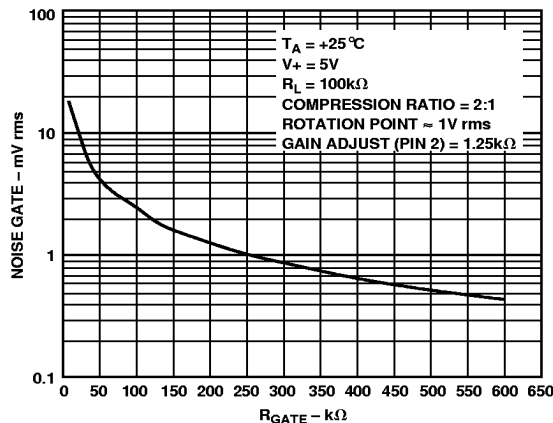
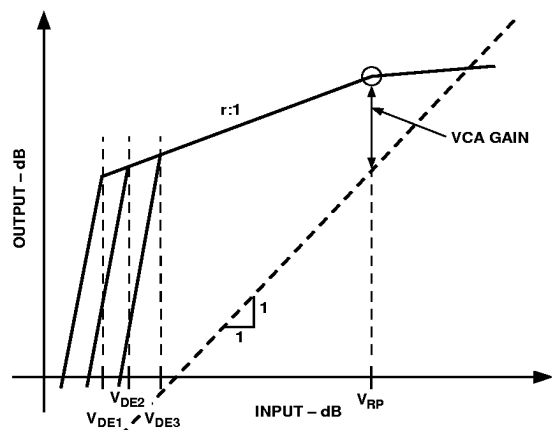

Figure 4. Noise Gate vs.  $R_{GATE}$  (Pin 9 to  $V_+$ )
Figure 20. Effect of Varying the Downward Expansion (Noise Gate) Threshold
**Downward Expansion Threshold.** The downward expansion, or noise gate, threshold is determined via a second reference voltage internal to the control circuitry. This second reference can be varied in the SSM2166 using a resistor,  $R_{\text{GATE}}$ , connected between the positive supply and the NOISE GATE SET pin (Pin 9) of the SSM2166. The effect of varying this threshold is shown in Figure 20. The downward expansion threshold may be set between 300  $\mu\text{V}$  rms and 20 mV rms by varying the resistance value between Pin 9 and the supply voltage. Like the ROTATION PT ADJUST, the downward expansion threshold is inversely proportional to the value of this resistance: setting this resistance to 1 M $\Omega$  sets the threshold at approximately 250  $\mu\text{V}$  rms, whereas a 10 k $\Omega$  resistance sets the threshold at approximately 20 mV rms. This relationship is illustrated in Figure 4. A potentiometer network is provided on the evaluation board for this adjustment. In general, the downward expansion threshold should be set at the lower extreme of the desired range of the input signals, so that signals below this level will be attenuated.